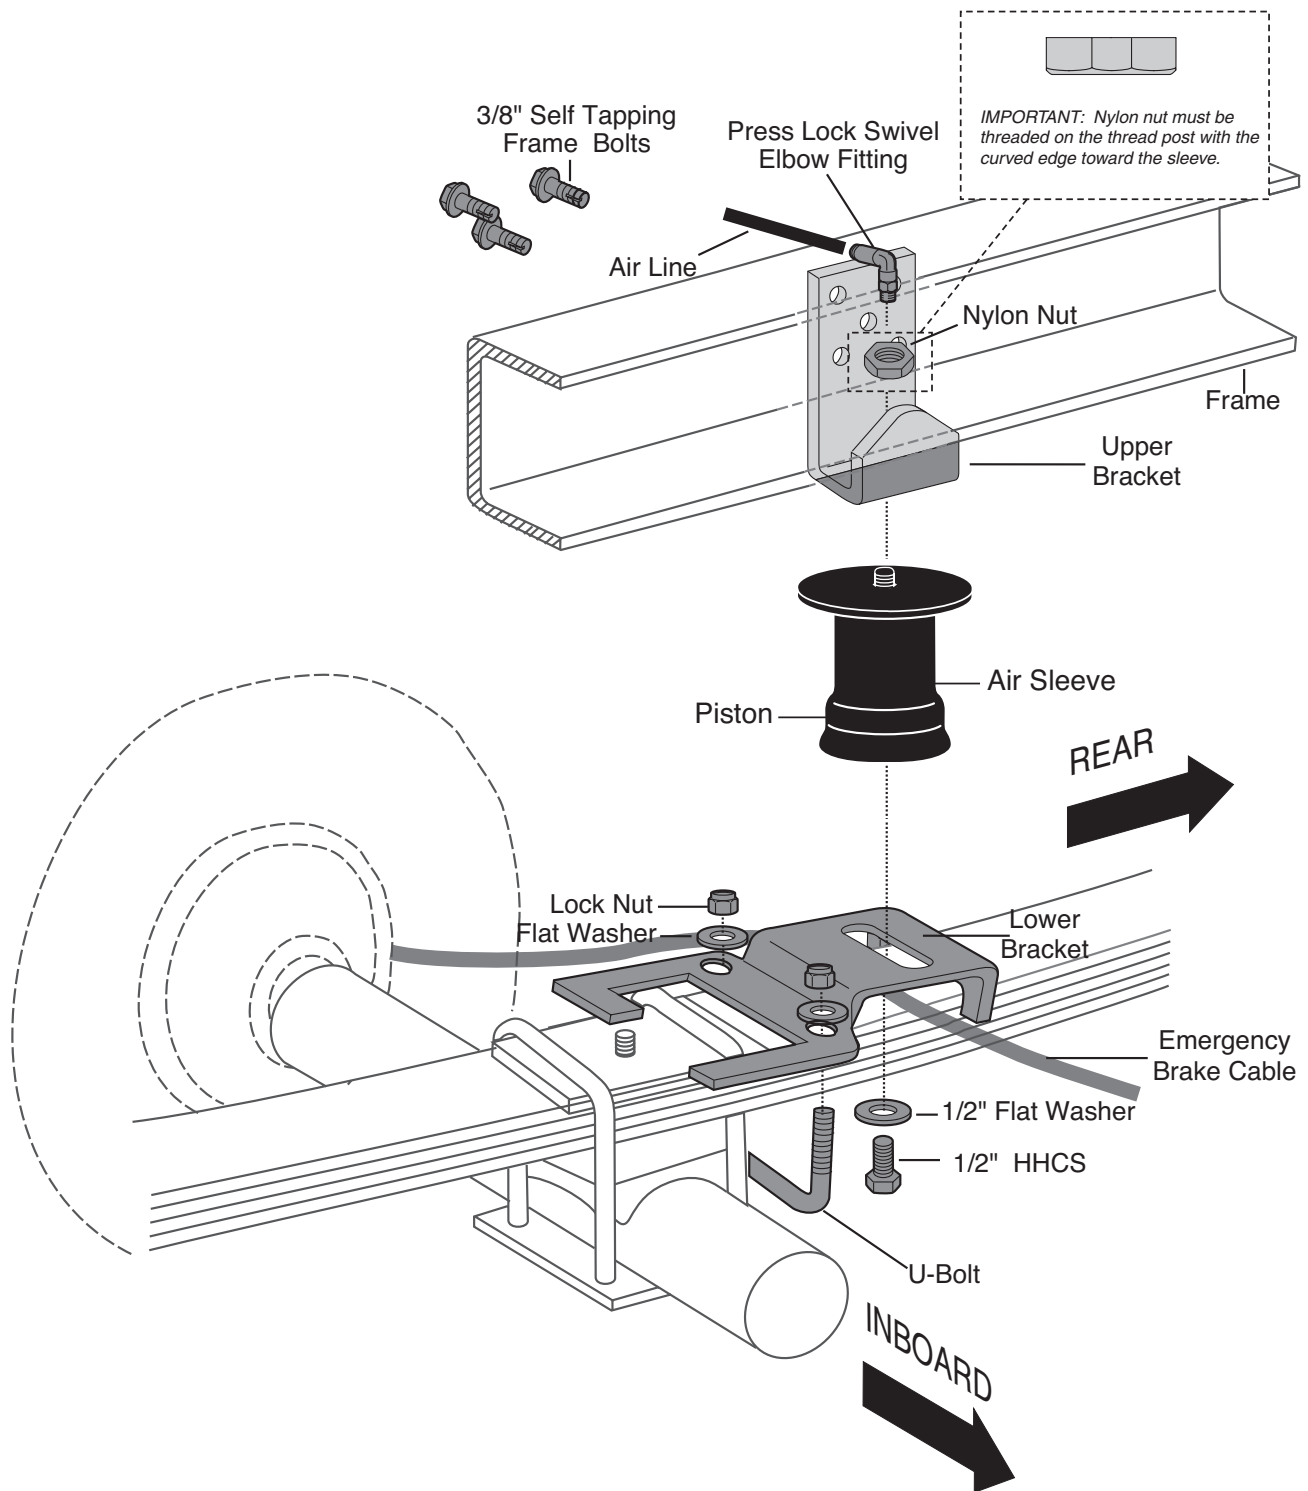
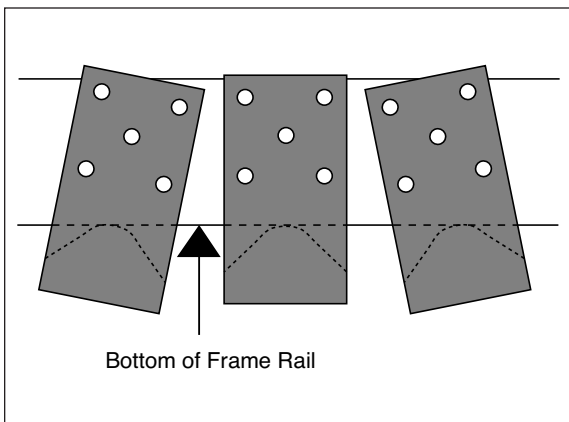

Figure 1
Figure 4
2. Thread the attached air fitting through the bottom of the J-bracket. Position the elbow towards the front of the vehicle for proper air line routing (Figure 1). Slide the provided nylon nut over the air fitting and onto the threaded post. Tighten the nylon nut hand tight to secure the bracket (Figure 4).
NOTE: The nylon nut must be threaded on the thread post with the curved edge facing toward the sleeve (Figure 1).
3. **LOOSELY** attach the lower bracket to the bottom of the sleeve using a 1/2" bolt and 1/2" flat washer (Figure 1). Set the assembly on the leaf spring.
NOTE: The lower bracket will go OVER the U-bolts. Secure to the leaf springs using the provided U-bolts, flat washers and nylon lock nuts (Figure 1). Tighten to 20 ft.lbs.
- Using the bracket as a template, center punch and drill three 5/16" holes. **The holes must be no larger than 5/16".** Attach the upper bracket using the Self-Tapping Frame Bolts and tighten to 15 ft.lbs. (Figure 1). **DO NOT OVERTIGHTEN.**